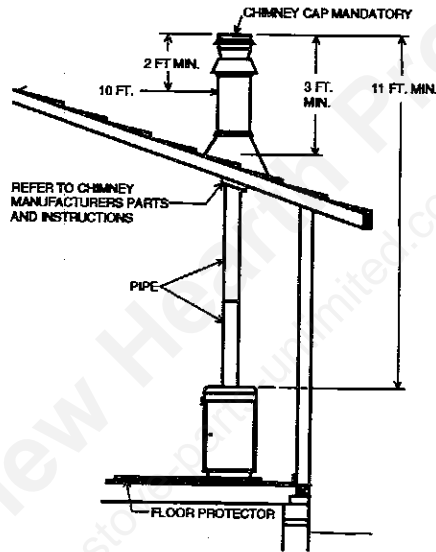

**Fig. 5**
1. The chimney connection should be as possible. The heater must have its own chimney flue. Do not connect this unit to a chimney flue, serving another appliance. If there is no chimney near where you wish to place the heater, you can use a UL 103HT Residential Type and Building Heating Appliance Chimney (Fig. 5, 6, 6A & 6B).